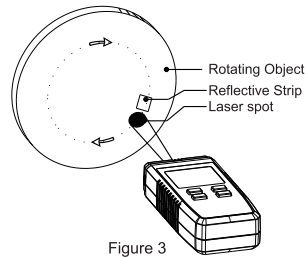

Figure 3
- 1. RPM measurement (see figure 3)